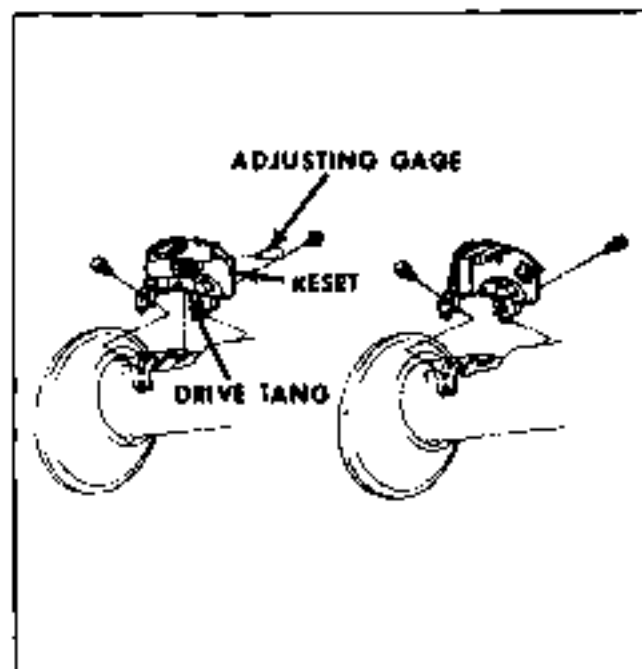

Fig. 12-34 Adjusting Back Up and Neutralizer
1. Position and hold the shift lever in low range while inserting the blade of the reset gage J 23056-2 into the RESET slot of the switch, Fig. 12-34, exerting sufficient pressure to insure full penetration (approximately $9/16$ " of the blade, and remove gage.